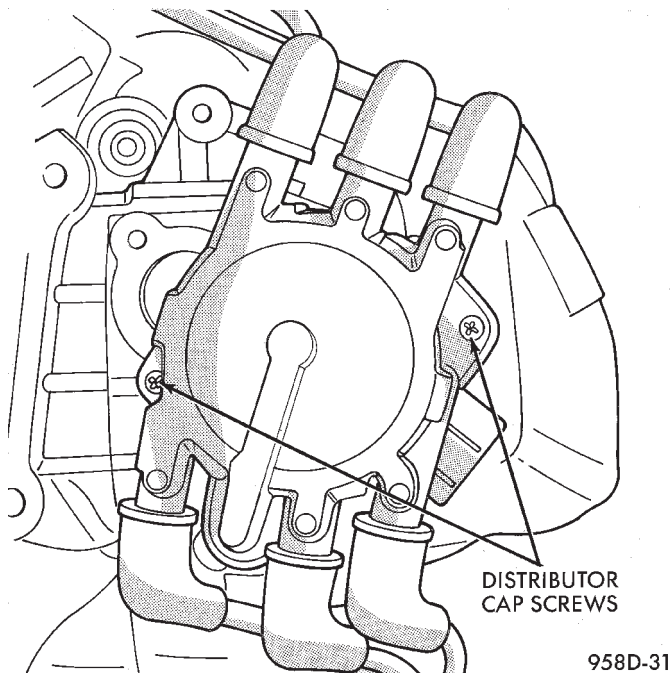

Fig. 54 Distributor Cap Screws
(8) Loosen distributor cap holddown screws and remove cap (Fig. 54).
(1) Remove bolt holding air inlet resonator to intake manifold.
(2) Loosen clamps holding air cleaner cover to air cleaner housing.
(3) Remove PCV make-up air hose from air inlet tube.
(4) Loosen hose clamp at throttle body.
(5) Remove air inlet tube, resonator and air cleaner cover.
(6) Remove EGR tube.
(7) Remove spark plug cables from distributor cap.
- (1) Remove bolt holding air inlet resonator to intake manifold.
- (2) Loosen clamps holding air cleaner cover to air cleaner housing.
- (3) Remove PCV make-up air hose from air inlet tube.
- (4) Loosen hose clamp at throttle body.
- (5) Remove air inlet tube, resonator and air cleaner cover.
- (6) Remove EGR tube.
- (7) Remove spark plug cables from distributor cap.
- (8) Loosen distributor cap holddown screws and remove cap (Fig. 54).
- (9) Mark the rotor position and remove rotor. The mark indicates where to position the rotor when reinstalling the distributor.